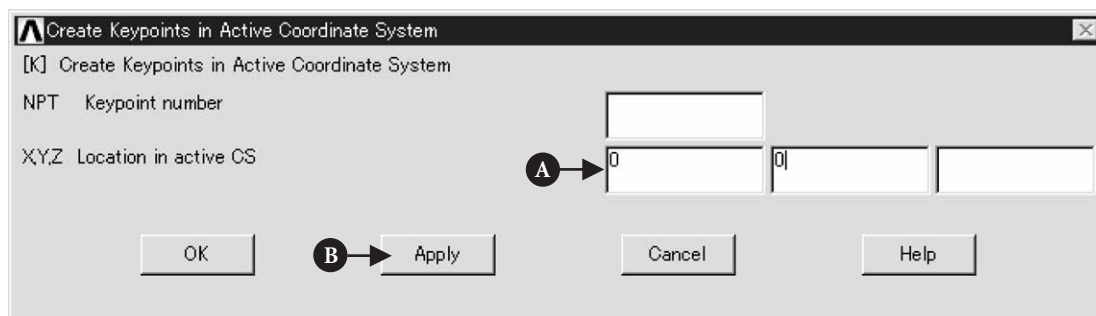

Figure 5.8 Window of **Create Keypoints in Active Coordinate System**.
- (1) The window **Create Keypoints in Active Coordinate System** opens (Figure 5.8).